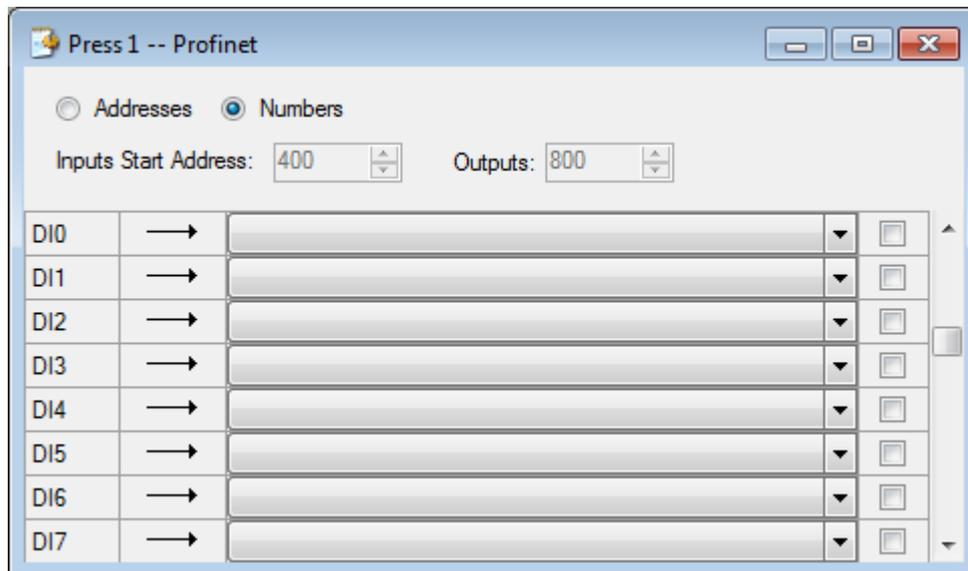

Figure 2: Window for associating variables to PROFINET inputs/outputs
1. In the project tree, open the "hardware" tab, then double-click on the "Profinet" tab, then the window for associating variables to the PROFINET bus will be opened (see figure 2). Note: It is possible to display the inputs/outputs by number or address, if you display them by address, enter the starting addresses in order to have the same structure as on the Profinet master.